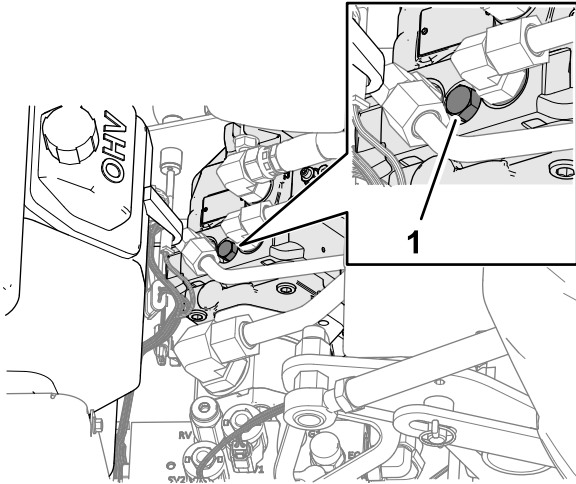

Figure 118
**Note:** The location of the cover for the bypass-valve screw is shown in Figure 118.